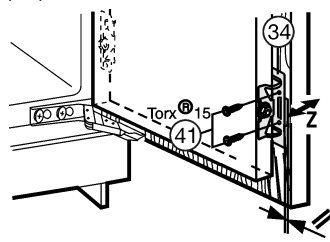

Fig. 24
- ▶ Fasten the appliance door to the unit door with screws *Fig. 24 (41)* through the mounting brackets *Fig. 24 (34)*.